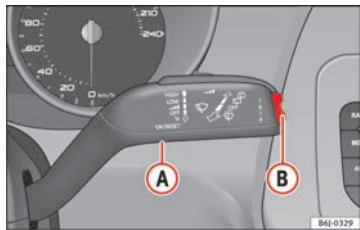

Fig. 37 Windscreen wiper lever: button (A) and rocker switch (B).
- With the ignition switched on, briefly press button ⇒ Fig. 37 (A) on the window wiper lever to move from one memory to another.
You can switch between the following displays in the multi-function display (MFD) by operating rocker switch ⇒ Fig. 37 (B) in the windscreen wiper lever:
When the required speed has been reached, enter the “Speed warning” mode and press button ⇒ Fig. 37  (RESET). The set speed is memorised. If the indicated speed is exceeded at any time, a warning message is displayed on the screen and an audible warning sounds.1)
This may be deactivated by pressing the  button. The speed may be altered using the rocker switch ⇒ Fig. 37  in steps of 5 km/h within 5 seconds of the initial memory value.